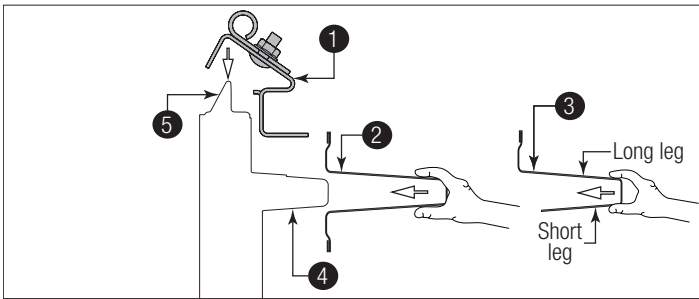
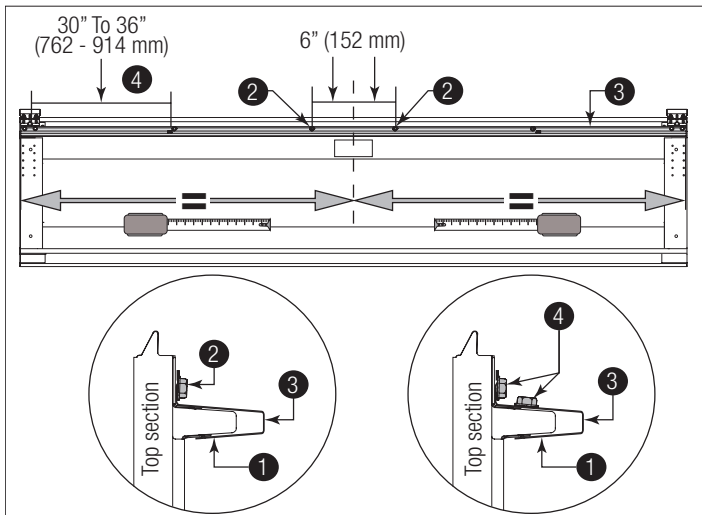

Figure 18, Left Side Shown
Figure 21, Left Side Shown
See Figure 18 through Figure 21 for the following steps.
IMPORTANT: When securing the asymmetrical strut (3) to the top section, it is recommended not to install any fasteners into the short leg (1) of the asymmetrical strut. See Figure 21 for correct orientation.